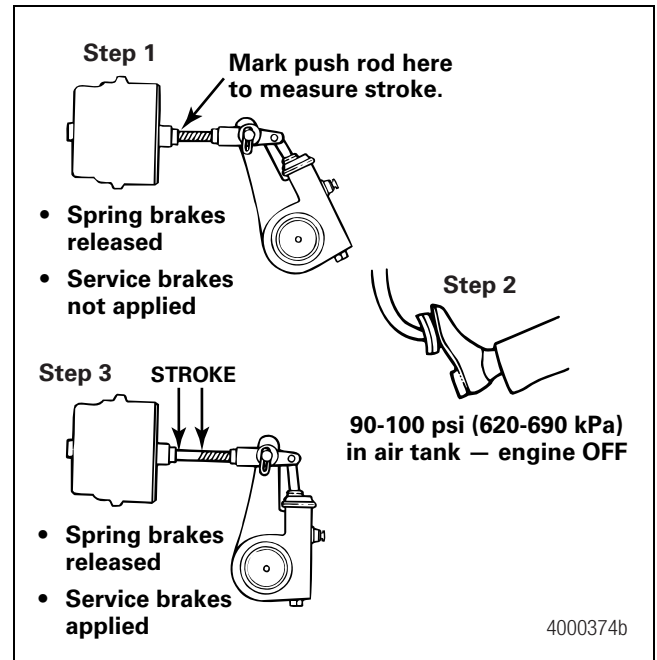

Figure 15
3. With the brakes released, mark the push rod where it exits the chamber. Measure and record the distance. Have another person apply and hold the brakes on full application. Figure 15. Hold the ruler parallel to the push rod and measure as carefully as possible. A measurement error can affect CVSA re-adjustment limits. CVSA states that "any brake 1/4-inch or more past the re-adjustment limit, or any two brakes less than 1/4-inch beyond the re-adjustment limit, will be cause for rejection."
4. Measure the push rod travel or adjusted chamber stroke from where the push rod exits the brake chamber to your mark on the push rod. Measure and record the distance. Figure 15.